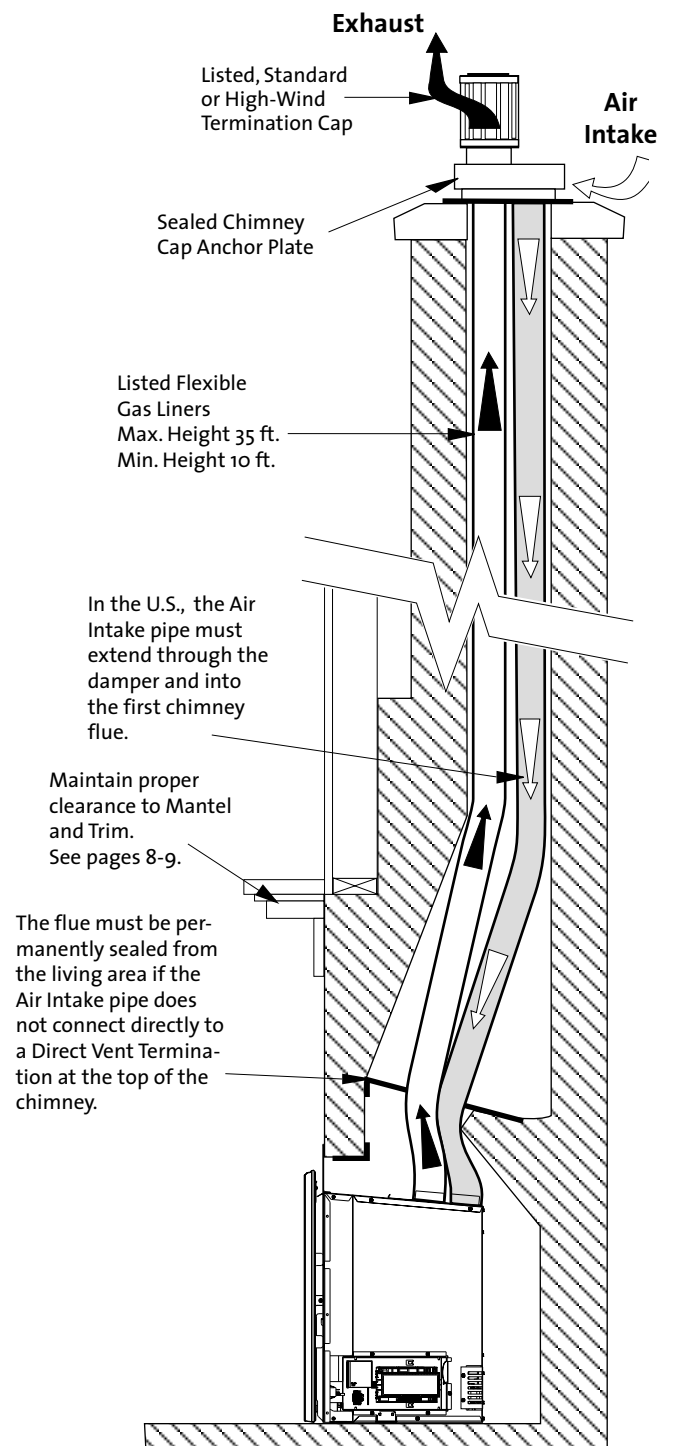

Figure 7. Masonry Fireplace Venting Configuration.
- The minimum height of termination cap from the top of the unit shall be no less than 10 ft.(3.05 m), and the maximum height shall be no more than 35 ft. (10.67 m). See figures 7 and 8.
This appliance must be vented through the chimney by a pair of 3 inch flexible aluminum liners listed for use with gas appliances. One duct is attached to the exhaust port on the top of the unit and will carry the exhaust gases to the outside of the house. This exhaust liner must run the full length of the chimney and be directly connected to the chimney termination cap. See figure 7 and 8.
The other 3 inch liner will be attached to the air intake port and will provide fresh air for combustion to the unit. This liner must extend a minimum of 6 feet through the damper area of the fireplace and into the tile liner of the chimney. This liner can also extend the full length of the chimney and connect to the termination cap. See NOTICE below. See also figures 7 and 8.
If the intake flex does not extend the full length of the chimney and connect to the unit and the termination cap - **A METAL BLOCK OFF PLATE MUST BE CONSTRUCTED AND INSTALLED ABOVE THE UNIT BELOW THE END OF THE INTAKE DUCT** (normally at the damper area). See figure 7.